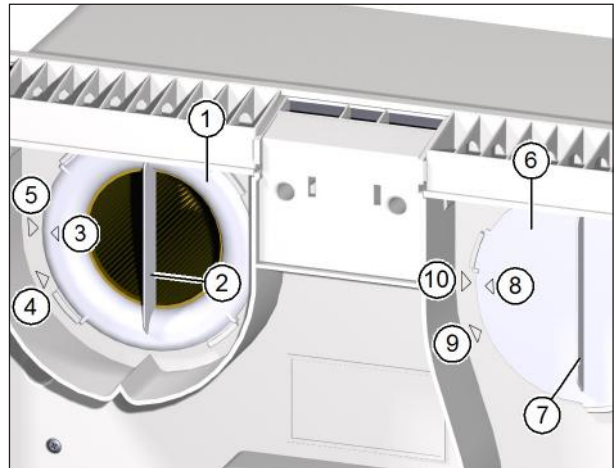

Fig. 14: Remove air filters
- ▶ Turn the filter ring (item 1 in Fig. 14) using the hand grip (item 2 in Fig. 14) anti-clockwise until the arrow on the filter ring (item 3 in Fig. 14) lines up with the arrow at the removal position (item 4 in Fig. 14).
- ▶ Turn the filter cover (item 6 in Fig. 14) using the hand grip (item 7 in Fig. 14) anti-clockwise until the arrow (item 8 in Fig. 14) on the filter cover lines up with the arrow at the removal position (item 9 in Fig. 14).
- ▶ Make sure that the filter ring is oriented so that the arrow on the filter ring (item 3 in Fig. 14 on page 26) lines up with the arrow for the removal position (item 4 in Fig. 14 on page 26).
- ▶ Turn the filter ring clockwise until the arrow on the filter ring (item 3 in Fig. 14 on page 26) lines up with the arrow for the locking position (item 5 in Fig. 14 on page 26).
- ▶ Check the position of the filter ring and filter cover. The hand grips must be vertical and the arrows on the filter ring and filter cover must line up with the arrows for the locking position (see Fig. 14 on page 26).